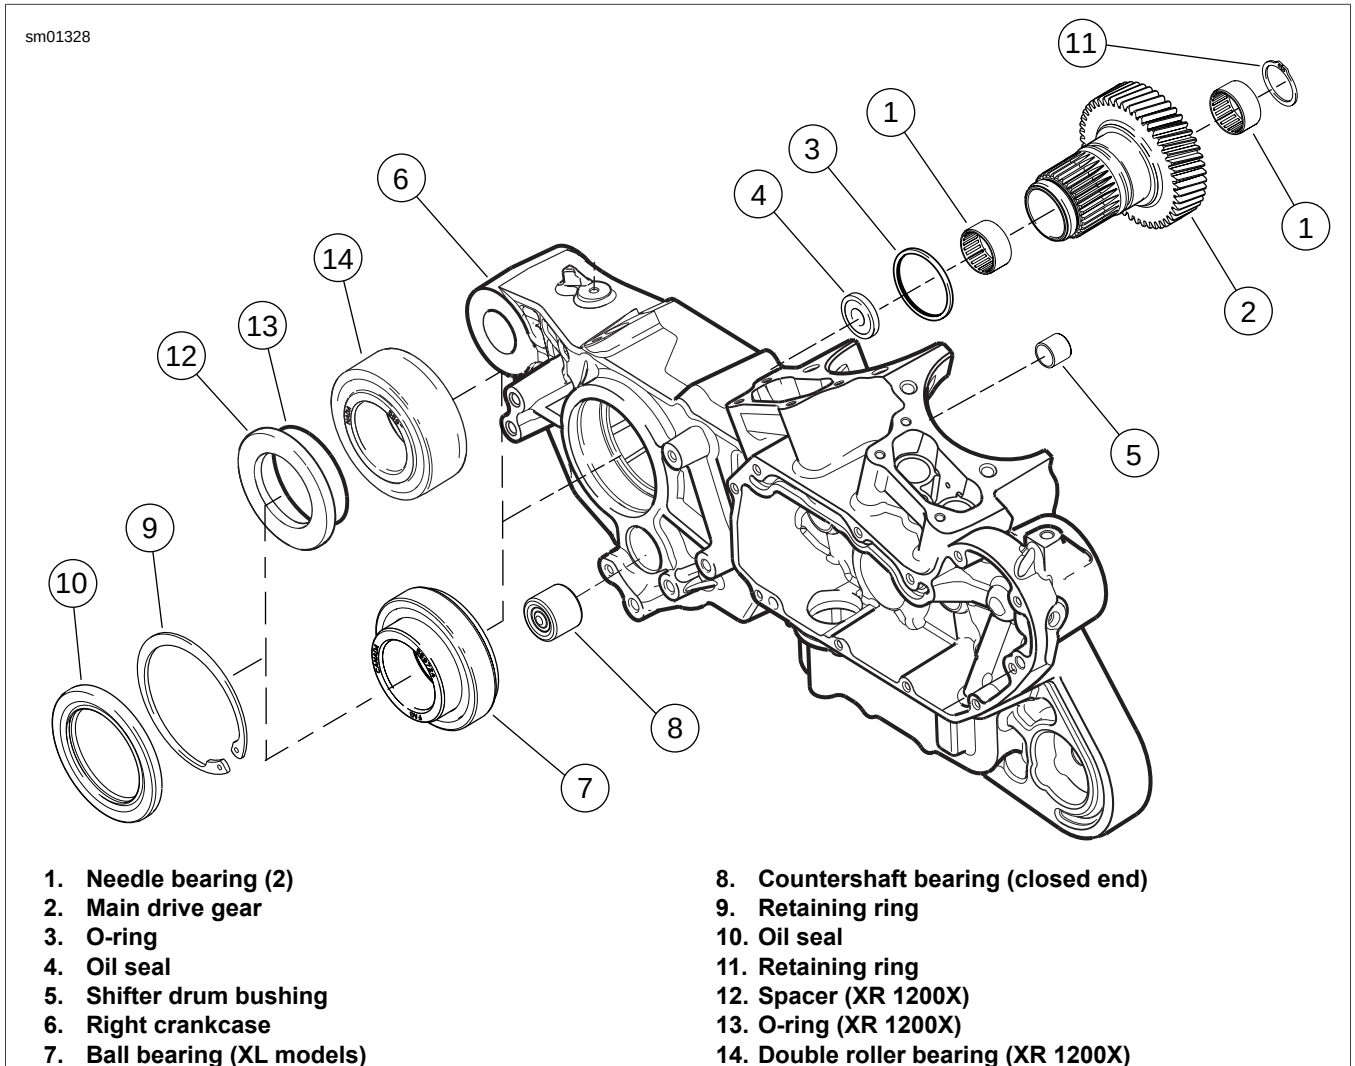

Figure 5-64. Main Drive Gear and Bearing Assembly
See Figure 5-64. Main drive gear (2) removal requires replacement of the main drive gear bearing (7 or 14). Gear removal procedure destroys bearing's inner race.
1. See Figure 5-64. Remove and discard oil seal (10). Remove and discard main drive gear bearing retaining ring (9).
2. **XR 1200X:** Remove spacer (12) and O-ring (13).
1. See Figure 5-64. Remove retaining ring (11) from inboard end of main drive gear (2). Discard retaining ring.
7. See Figure 5-64. Install **new** retaining ring (11) in inboard end of main drive gear (2).